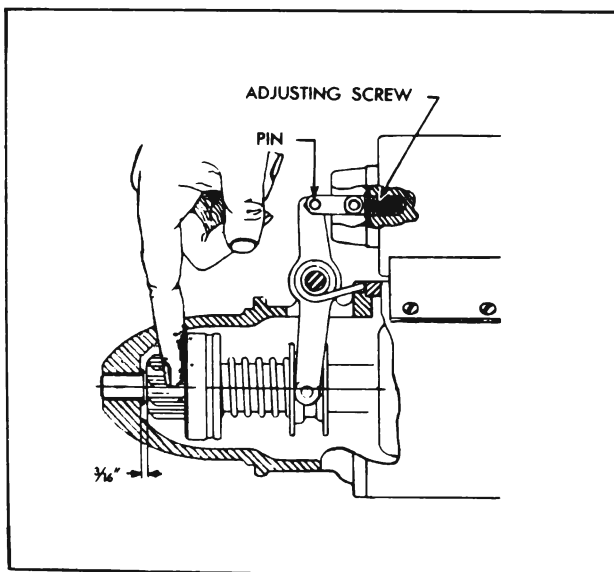

Figure 10-62—Checking Pinion Travel
4. Press finger lightly against outer side of drive assembly shell to take out all lash in shift linkage, then measure clearance between end of pinion and machined surface on drive housing. Clearance should be $\frac{3}{16}$ ". See figure 10-62.